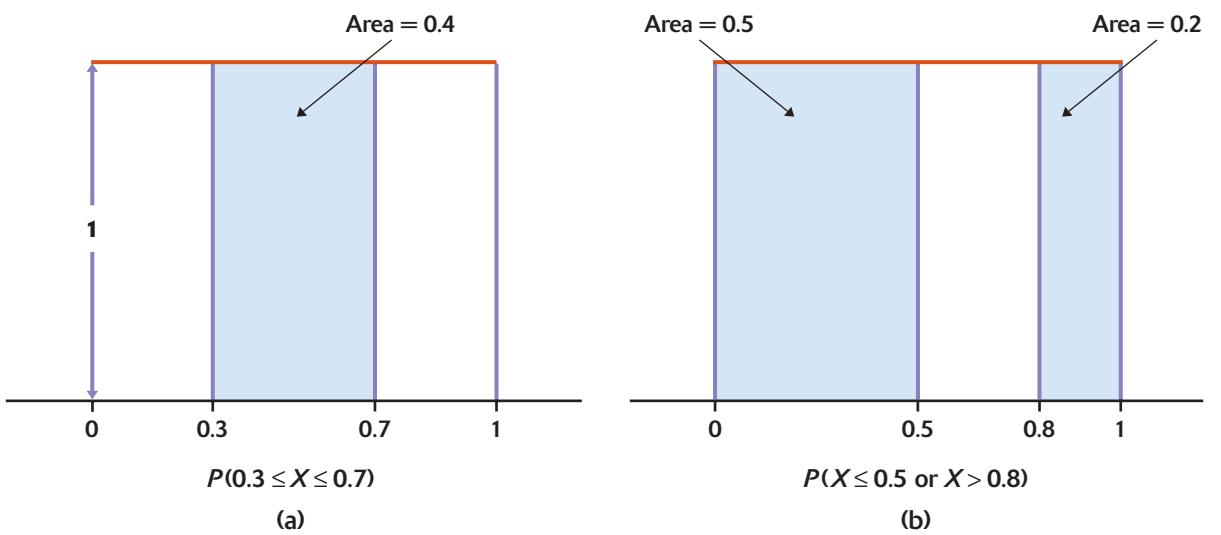

FIGURE 4.5 Probability as area under a density curve. These Uniform density curves spread probability evenly between 0 and 1.
The random number generator will spread its output uniformly across the entire interval from 0 to 1 as we allow it to generate a long sequence of numbers. The results of many trials are represented by the **Uniform density curve**, as shown in Figure 4.5. This density curve has height 1 over the interval from 0 to 1. The area under the curve is 1, and the probability of any event is the area under the curve and above the event in question.
As Figure 4.5(a) illustrates, the probability that the random number generator produces a number between 0.3 and 0.7 is
Notice that the last event consists of two nonoverlapping intervals, so the total area above the event is found by adding two areas, as illustrated by Figure 4.5(b). This assignment of probabilities obeys all of our rules for probability.
Compare the density curves in Figure 4.5 with the probability histogram in Figure 4.3(a). Both describe Uniform distributions. In 4.3(a), there are only 9 possible outcomes, the whole numbers 1, 2, ..., 9. In Figure 4.5, the outcome can be any number between 0 and 1. In both figures, probability is given by area. Although the mathematics required to deal with density curves is more advanced, the most important ideas of probability apply to both kinds of probability models.
- 4.20 **Random numbers.** Let Y be a random number between 0 and 1 produced by the idealized Uniform random number generator described in Example 4.7 and Figure 4.5. Find the following probabilities: